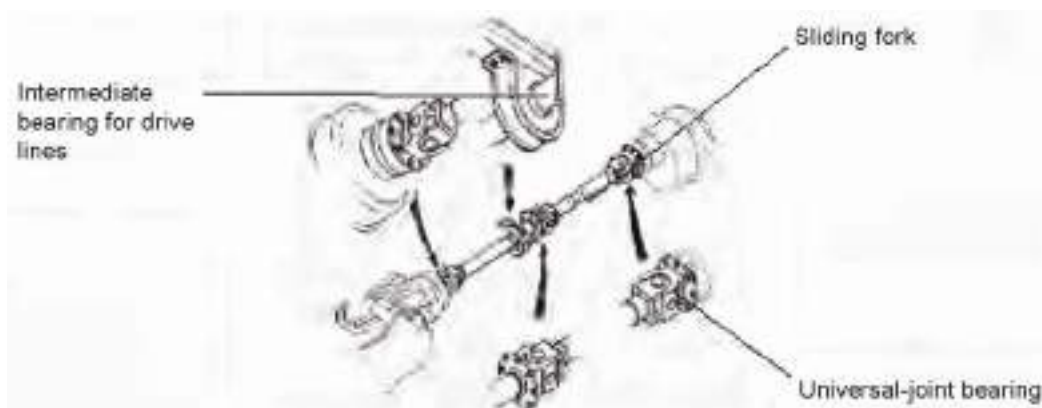

Figure 1-12 Drive Line Lubrication Points
- (6) Add grease to the drive lines. Refer to Figure 1-12.